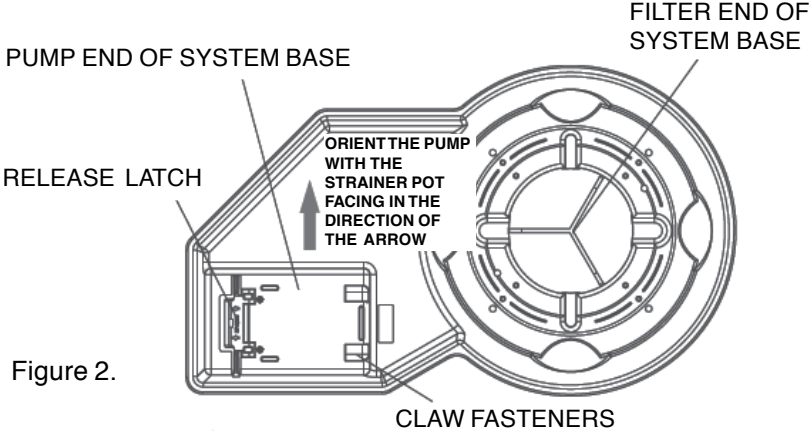

Figure 2.
F. The pump may now be attached to the pump support side of the base. The pump should be oriented as indicated in Figure 2.